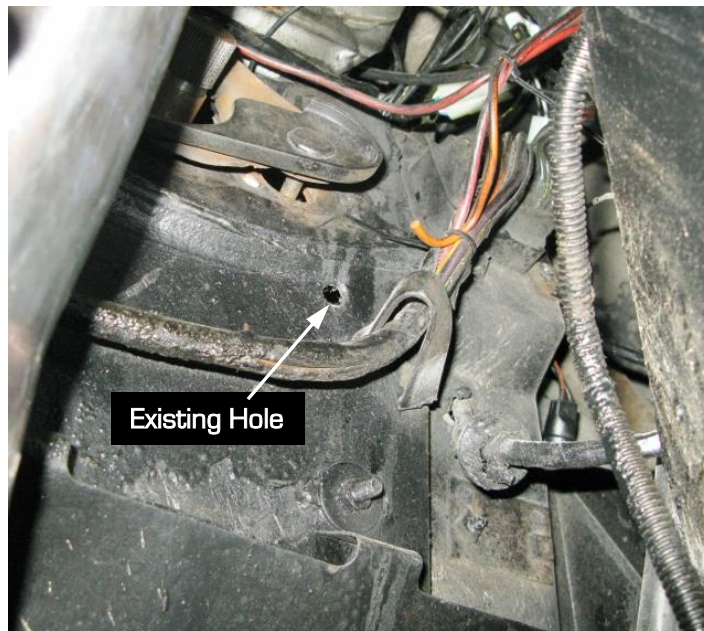
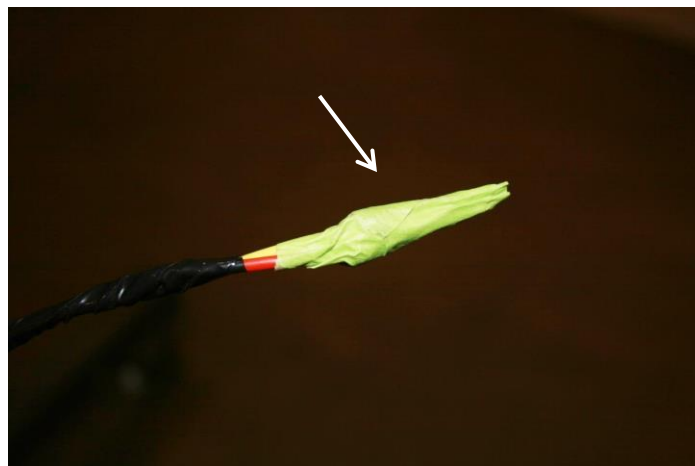

Figure 20 – Route Headlight Harness
Figure 21 – Tape 4 Terminals
17. Remove the left lower firewall insulation retaining plug from the firewall. It is located inside the vehicle just below the bottom right corner of the fuse block (the carpet may need to be pulled back slightly to gain access). The new headlight harness can be routed through this existing hole (Figure 20 on the next page). **NOTE:** You can drill a new hole on the side of the fuse box area if desired.
18. The terminated ends of the new headlight harness that do not have connectors on them, connect to the headlight door actuators. Tape these 4 terminals with masking tape to make it easier to route the harness (Figure 21). Feed the taped ends through the firewall in the existing hole (Figure 20 above) where the insulation plug was removed in step 17 and route the harness out to the headlight door actuators, routing it along with the original engine and body wiring harnesses.